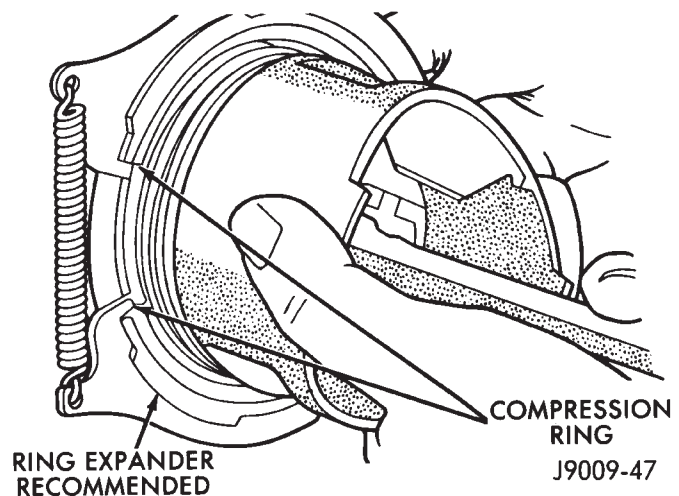

Fig. 24 Compression Ring Installation
(9) Using a ring installer, install the second compression ring with the chamfer facing down (Fig. 24). The dots will be facing up.
(10) The top compression ring (the scraping edge is gray in color) has a chamfer on the **TOP** of the inside edge. This ring has one dot located on the top surface.